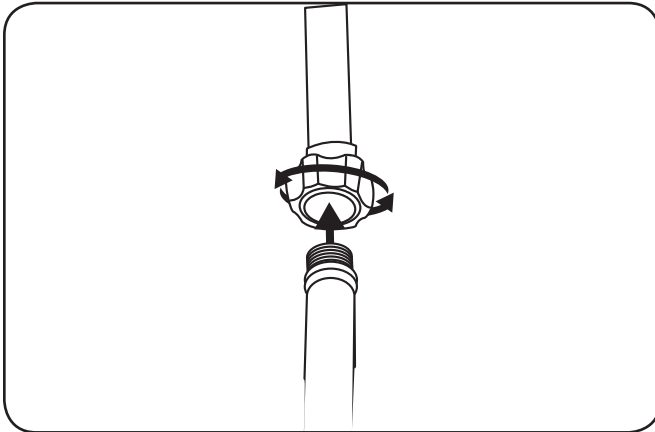

Figure 5-2
- Connect water source to pump inlet. See Figure 5-2.